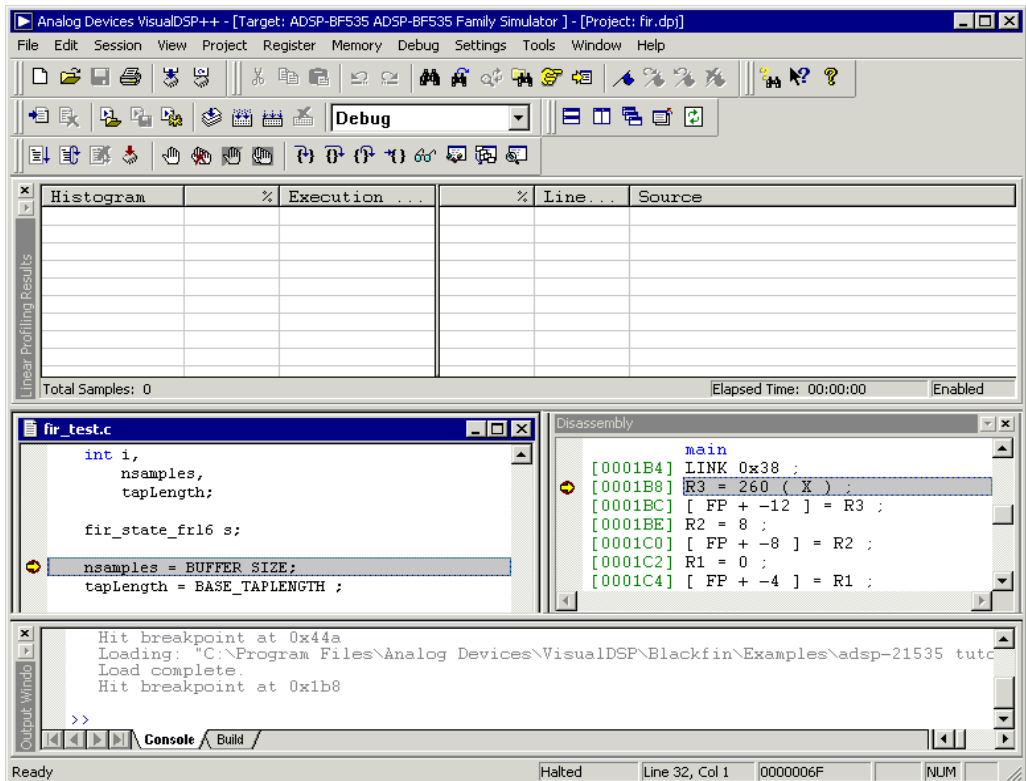

Figure 2-37. Linear Profiling Results Window (Empty)
2. For a better view of the data, use the window's title bar to drag and dock the window to the top of the VisualDSP++ main window, as shown in Figure 2-37.